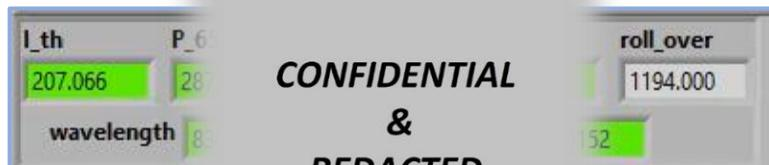

Figure 36 - LIV Te
10.2.7 CONCLUDING LIV TEST. A few things occur upon completion of the test. Six fields (Figure 36) populate with data and illuminate either green or red upon the end of the LIV test. Green indicates that the laser passed that aspect of the test, and red means that the laser failed and that that value is outside of a normal, acceptable range. If there are any failures, verify that the correct wavelength was selected for the test, that the Part subassembly is aligned correctly on the LIV testing platform, and that the power head was properly aligned as these are common reasons for a ‘false failure’. Re-run the LIV test if a false failure was found. Any true failures must be reviewed with the shop floor manager before proceeding.³ Failures notwithstanding, perform the below steps once the test has concluded:
³ Interpretation of the cause of any failed aspect of the test can be done by reviewing data from the LIV test against data gathered from prior LIV tests. The pathway in § 10.2.7.1 contains not only data from the LIV test, but also .txt files containing data imported from the automation station. For example, the LIV test results shown in Figure 36 failed for the maximum mA achieved. In this instance, the technician reviewed the mA achieved before the Q-mount subassembly was oven cured.